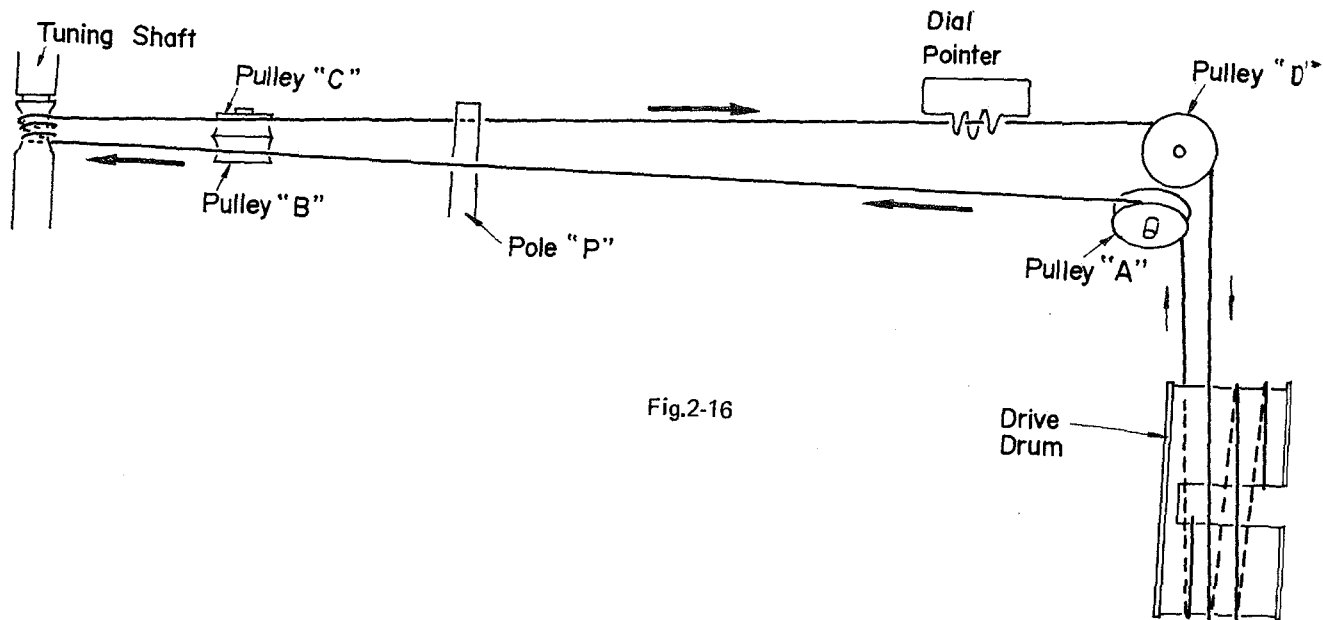

Fig.2-16
- (e) Make half counterclockwise turn around the drum then run the cord over pulley A and B, passing above the pole "P". See Fig. 2-16.